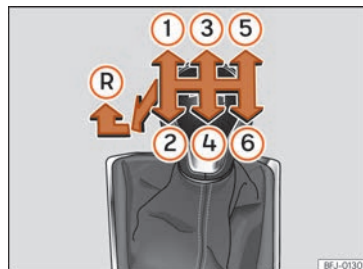

Fig. 161 Gear shift pattern of a 6-speed manual gearbox
The position of the gears is indicated on the gearbox lever »» **Fig. 161**.
- With the gearbox lever in neutral, push it downwards, move it to the left as far as it will go and then forwards to select reverse »» Fig. 161 (R).